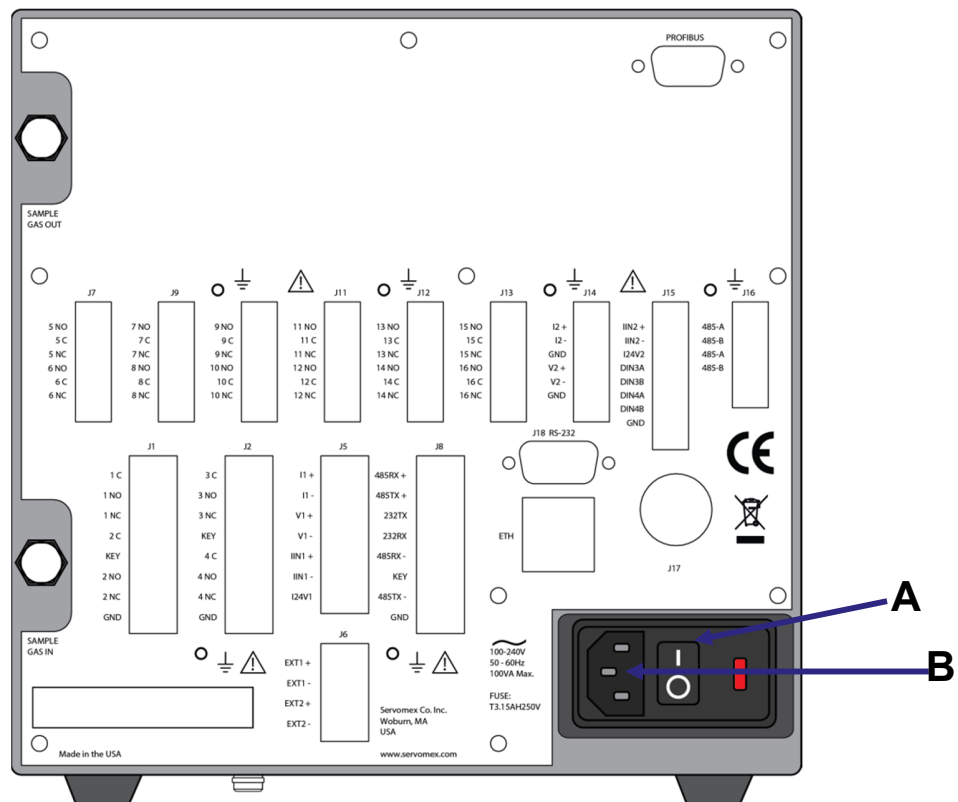

Figure 3-6: Power switch (A) and electrical supply socket (B) on rear of analyzer
1. Turn the Power Switch on the back of the unit to OFF: press the “O” on the On/Off switch shown in Figure 3-6 A.
2. Fit the IEC plug on the end of the electrical supply cable provided to the electrical supply socket on the rear of the analyzer (Figure 3-6 B).